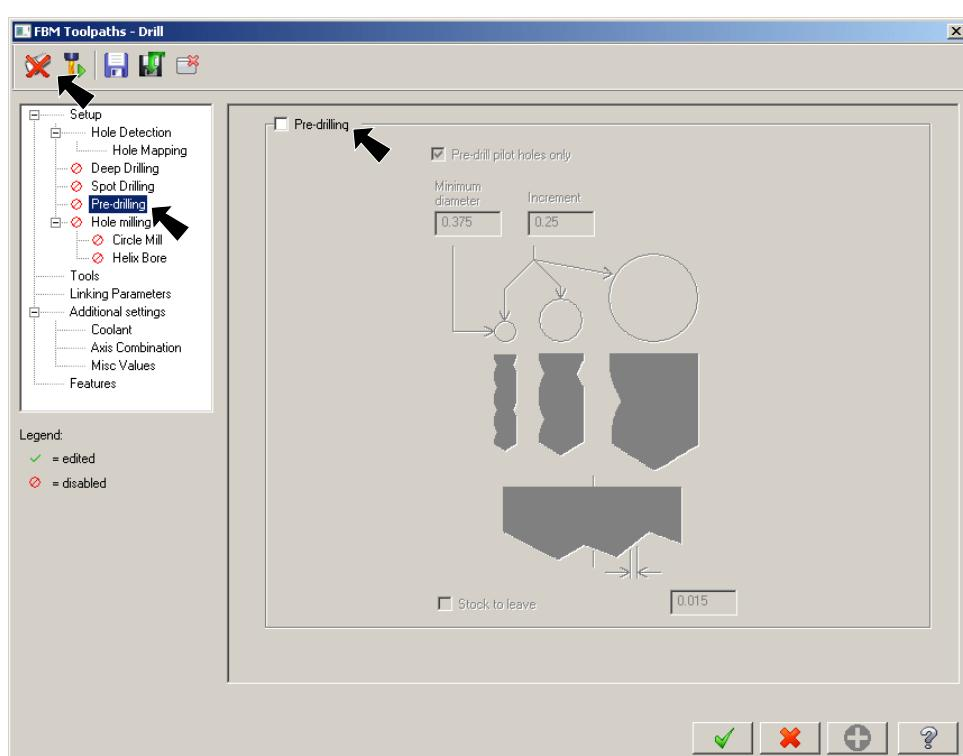

Fig. 103
Step 5. Select **Pre-drilling** from the tree control and uncheck **Pre-drilling** check box, **Fig. 103.**
Step 6. Click **Detect**  at the top of the dialog box to find the holes, **Fig. 103.**